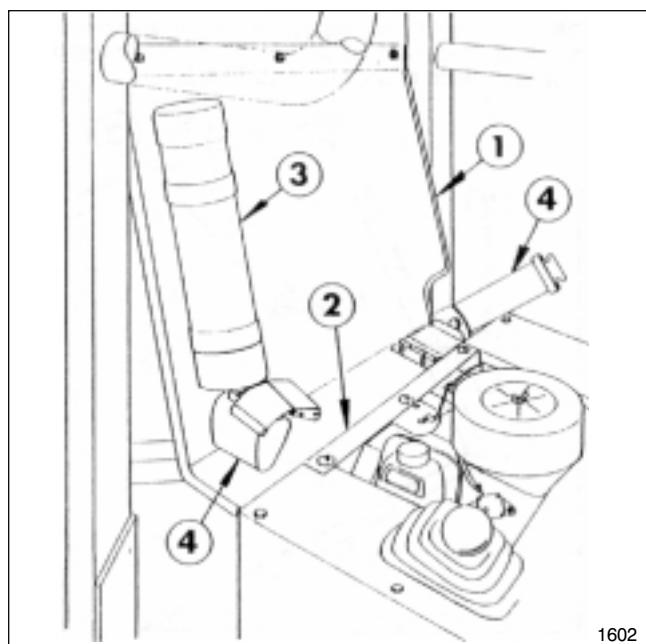

FIG. 7
23. Loosely mount the Noise Shield to the bottom of the Rear Window using (3) 1/4" x 3/4" flange hd. bolts, flatwashers, lockwashers, and hex nuts. Secure the bottom of the Noise Shield to the Seat Box Angle using (3) 1/4" x 3/4" flange hd. bolts, flatwashers, lockwashers, and hex nuts. Tighten all fasteners securely. See FIG. 7.
24. Mount the Seat Belt Assembly (furnished with the ROPS Kit) to the rear ROPS Bar at a 45° angle using (2) 7/16" x 1-1/4" hex hd. cap screws, lockwashers, and hex nuts.
25. **Loosen** and remove the (2) 5/16" bolts, flatwashers, spacers that secure the Storage Tube to the rear of the Seat. Mount the Storage Tube to the front side of the Noise Shield using the 5/16" bolts, flatwashers, and spacers removed earlier. Secure with (2) 5/16" locknuts provided with the ROPS Kit.